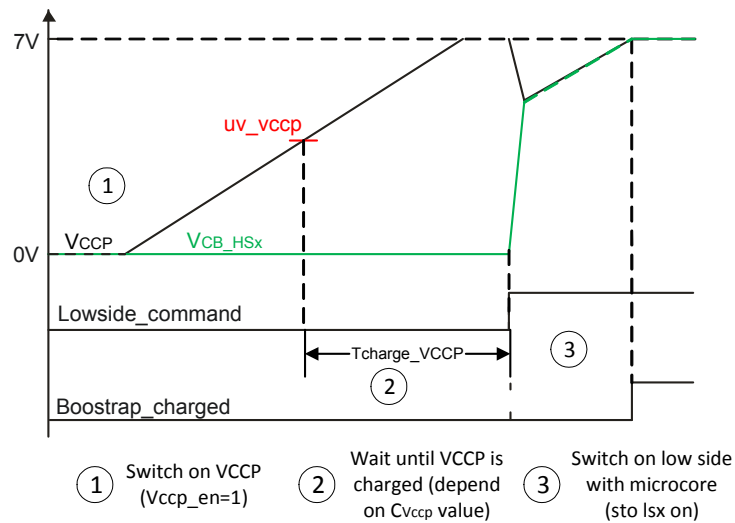

Figure 22. Power Up: V_{CCP} and bootstrap capacitors - after V_{CCP} fully charged
1. Wait for some specific time after V_{CCP} regulator is activated to ensure the V_{CCP} output voltage has reached it's nominal value of about 7.0 V. This is only possible if the V_{BATT} voltage is at a nominal value. Switch on the LS MOSFET(s) to charge the bootstrap capacitors. If the V_{CCP} voltage was high enough and the bootstrap capacitors are small compared to the V_{CCP} output buffer capacitor, this leads to a transfer of charge without crossing the V_{CCP_UV} threshold again. Figure 22 shows this strategy.